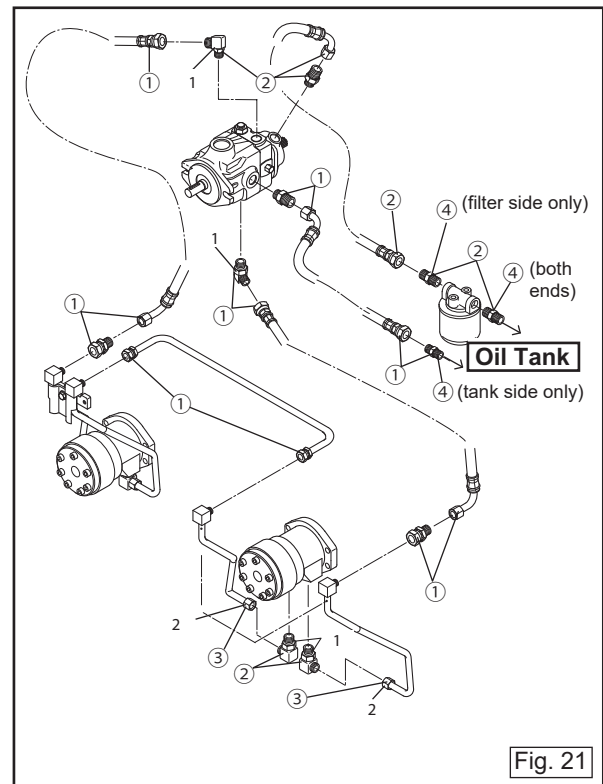
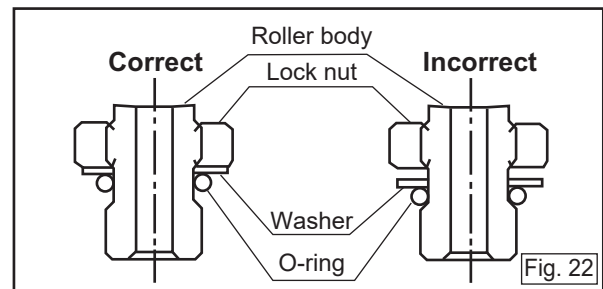

Fig. 21
Fig. 22
2. Tightening torque of the pipes / places to apply the liquid gasket (Fig. 21)
- ①.....36.14 lb-ft (49 N•m)
- ②.....43.52 lb-ft (59 N•m)
- ③.....57.53 lb-ft (78 N•m)
- ④.....Liquid gasket (Loctite 575)
- 1...When you install the Elbow 90° plug, check the position of lock nut, whether and O-rings for it are correct or not. Clean the screw, O-ring and the surface of O-ring port for the Elbow 90°plug. Grease the O-ring and screw of the Elbow 90°plug and screw it until contacting of its washer and O-ring port lightly. From this position, adjust the direction of the Elbow 90°plug in the loosening direction and tighten the lock nut. (Tightening torque 43.52lb-ft 59N•m) (Fig.22)